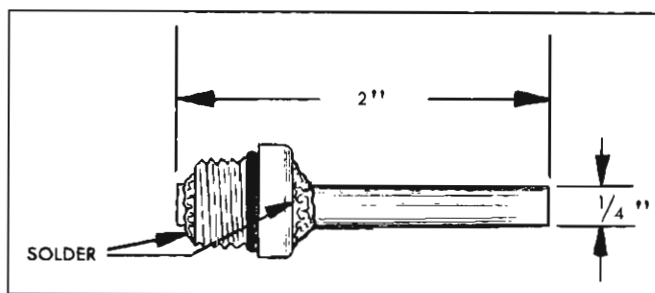

Fig. 131—Reservoir Filler Plug Adapter
- Install two inch length of metal tubing ($\frac{1}{4}$ " O.D. x $\frac{3}{16}$ " I.D.) into center of filler plug and solder tubing on both sides of filler plug to form air tight connection. See Fig. 131.